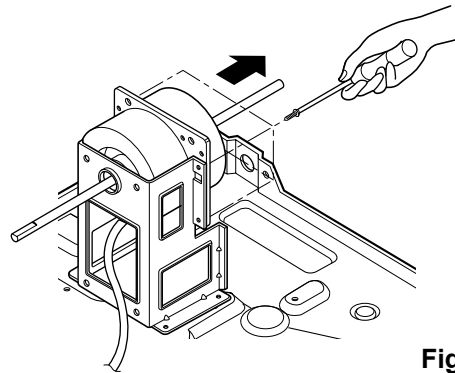

Figure 25
5. Remove the 4 screws which fasten the motor. (See Figure. 25)